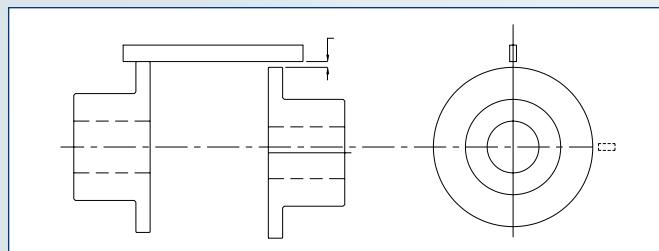
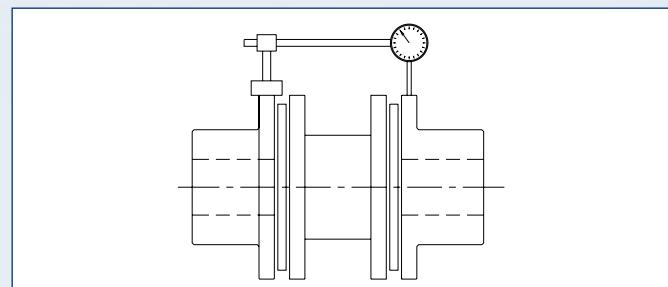

Fig. 6
Fig. 7
- Initial parallel alignment can be checked by using a straight-edge across the hub flanges (per Fig. 6, page 61) to measure the approx. distance (r) as shown in Table 6. A more precise method is using the dial indicator whereby the parallel off-set is measured in at least two places 90 degrees apart while rotating one hub. This is shown in Fig. 7, page 61.